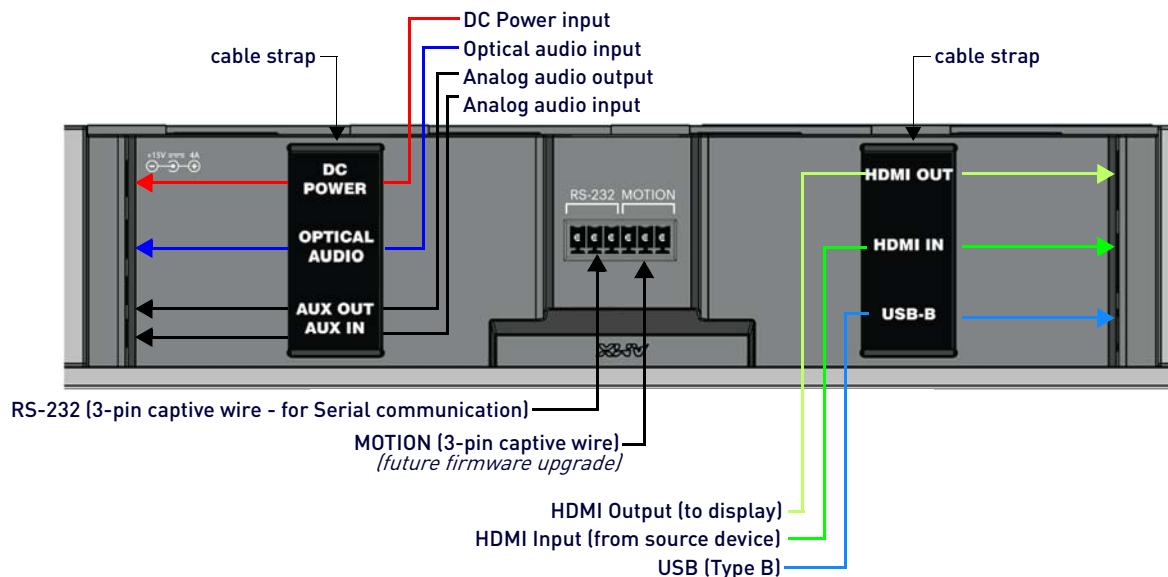
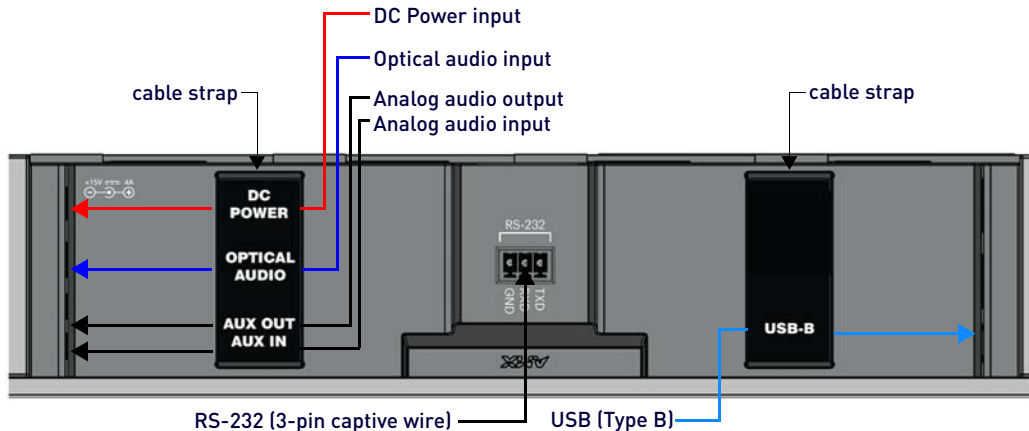

FIG. 11 ACV-5100 connector bay
FIG. 12 ACV-2100 connector bay
3. Connect cables as necessary (inside the connector bay - see FIG. 11 on page 11 and FIG. 12 on page 12).
The connectors on the ACV-5100 are shown in FIG. 11: .
The connectors on the ACV-2100 are shown in FIG. 12: .
The RS-232 connector is located in the center of the Connector Bay (see FIG. 11 on page 11).
The ACV-5100 features a 3-pin captive-wire connector that provides connectivity for the future implementation of an (optional) motion sensor, located next to the RS-232 connector (see FIG. 11 on page 11).